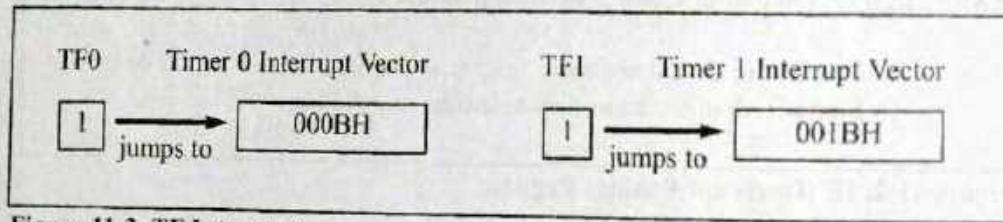

Figure 11-3. TF Interrupt
In Chapter 9 we stated that the timer flag (TF) is raised when the timer rolls over. In that chapter, we also showed how to monitor TF with the instruction "JNB TF, target". In polling TF, we have to wait until the TF is raised. The problem with this method is that the microcontroller is tied down while waiting for TF to be raised, and cannot do anything else. Using interrupts solves this problem and avoids tying down the controller. If the timer interrupt in the IE register is enabled, whenever the timer rolls over, TF is raised, and the microcontroller is interrupted in whatever it is doing, and jumps to the interrupt vector table to service the ISR. In this way, the microcontroller can do other things until it is notified that the timer has rolled over. See Figure 11-3 and Example 11-2.